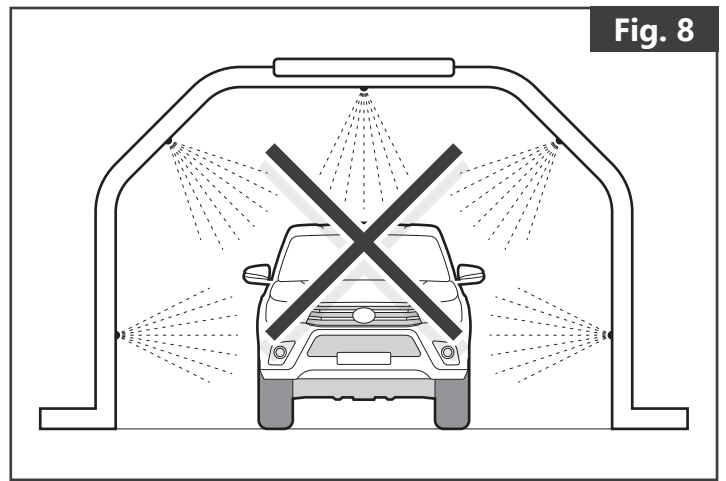

Fig. 8
- We do not recommend washing the cover in a brushless carwash, as the coating may be damaged due to use of chemicals. **(Fig. 8)**